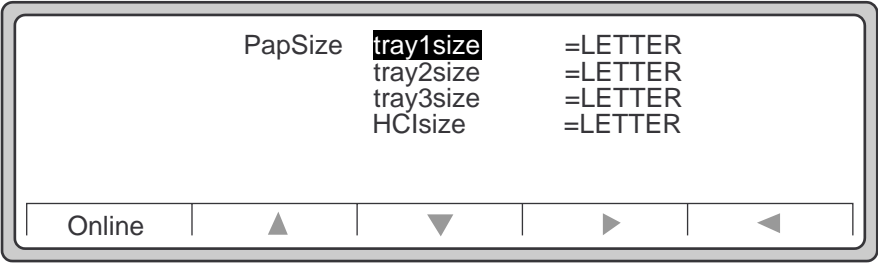

Figure 4-13 PapSize Menu
- 1. Press the **PapSize** button on the **Main Screen** to display the PapSize menu shown in Figure 4-13.